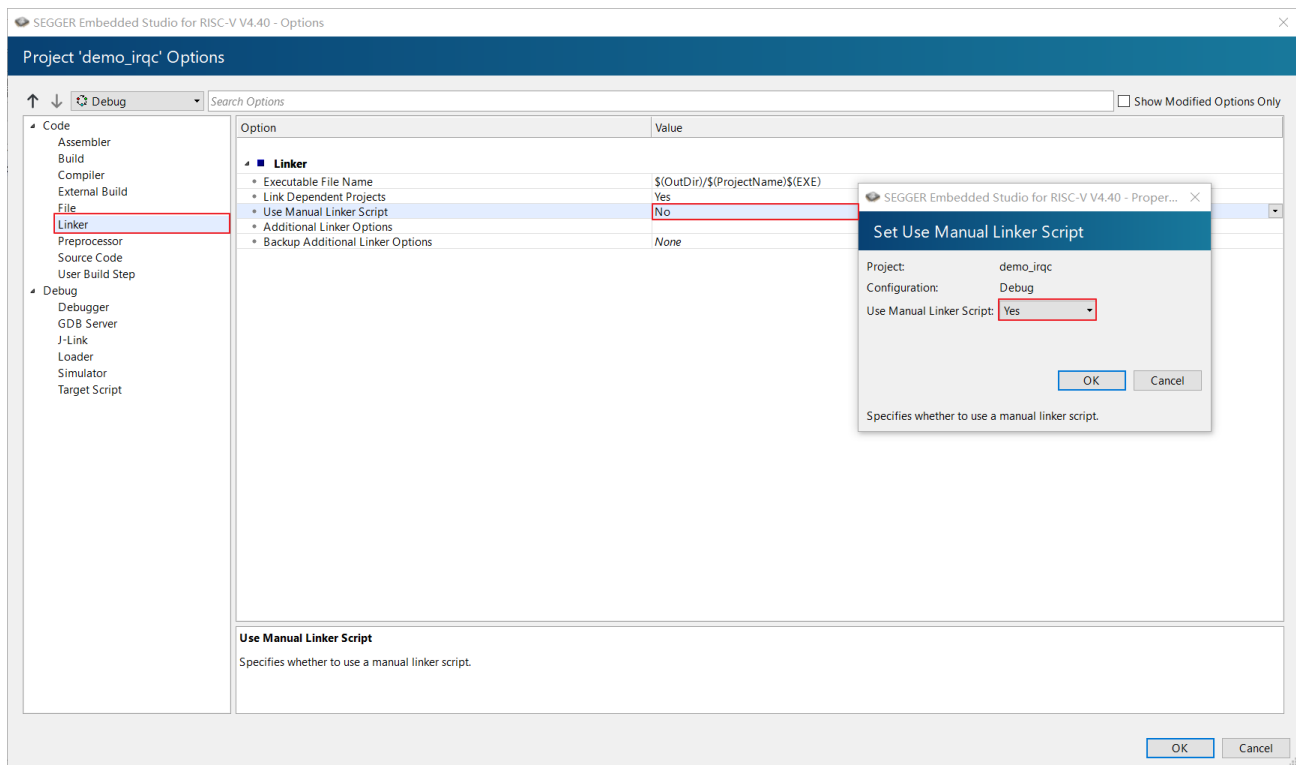
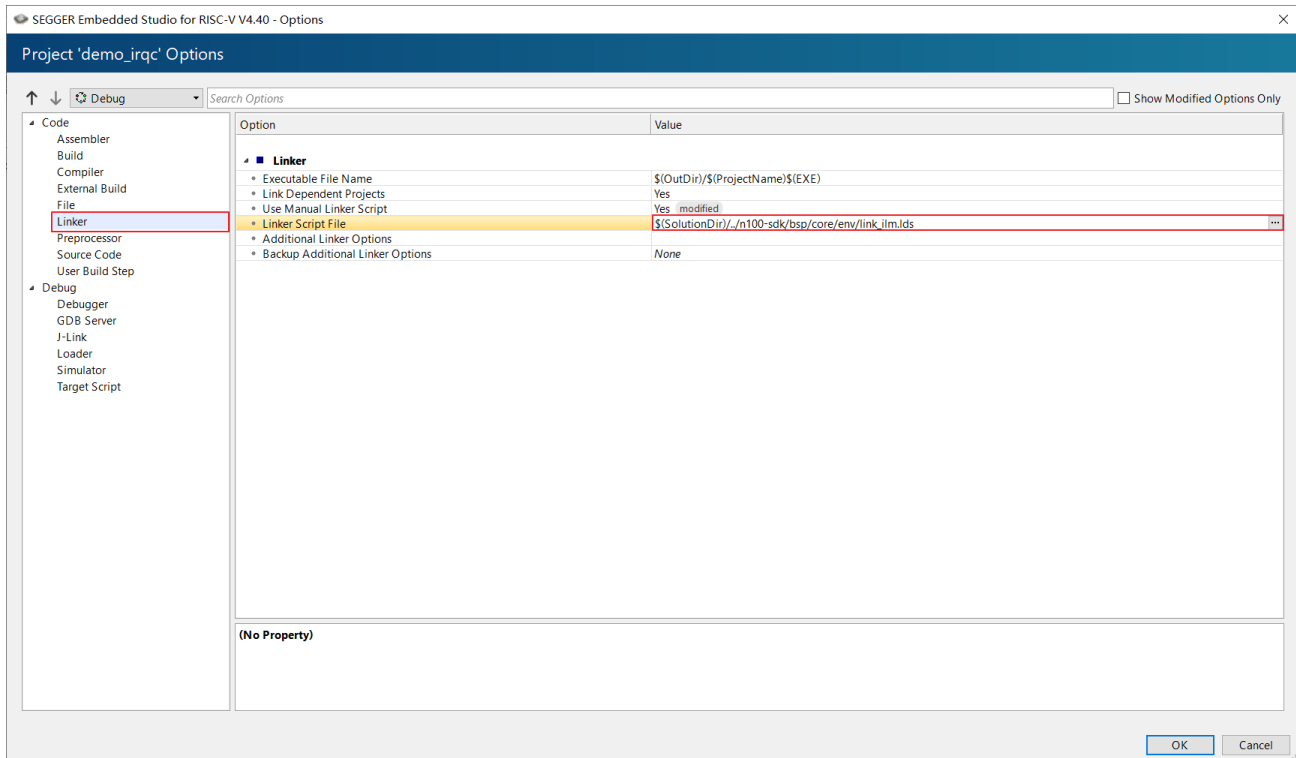

Figure 2-18 Set Use Manual Linker Script Option to Yes
Figure 2-19 Set Linker Script Directory
- Modify the “Use Manual Linker Script” option under “Linker” column to “Yes”, as shown in Figure 2-18. When the option is set to “Yes”, a new option is added, as shown in Figure 2-19. Enter the path of link script in this option.